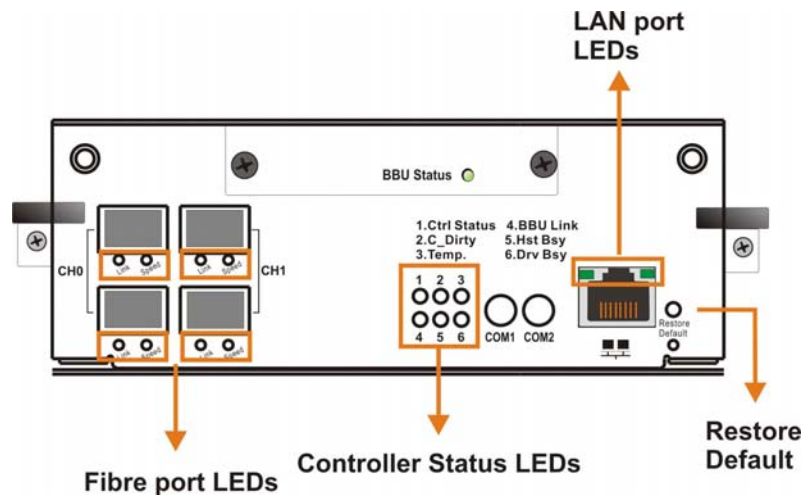

Figure 4-5: LEDs on the Controller Module
The controller faceplate is shown in *Figure 4-5*. Seven (7) different types of LEDs are present and described in the following sub-sections.
Each controller module houses four (4) FC-4G host ports. Each of these Fibre ports has two (2) LEDs (see *Figure 4-5*) for displaying the operating statuses.
A restore default LED is located above the restore default push button on the lower right corner of the controller faceplate. (See *Figure 4-5*) To restore firmware defaults, press and hold the button before turning on the subsystem. Once the factory defaults are successfully restored, the restore default LED lights green.